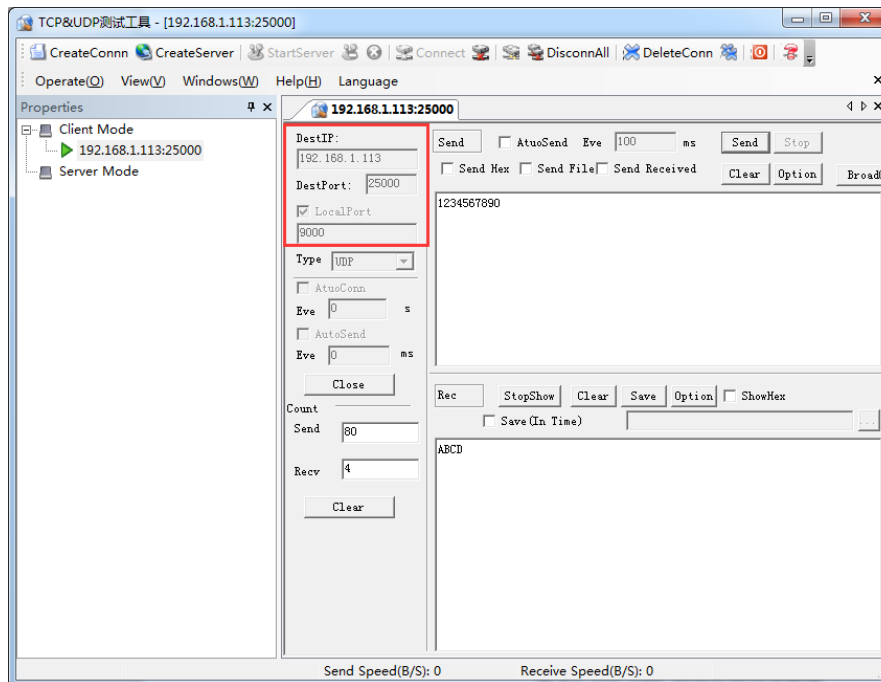

Figure 2-3 Transmit and receive data with the TCP/UDP test tool
3. UDP Sever sends character string to the UDP Client, that is, to send data from TCP/UDP test tool to the serial port (Figure 2-3).